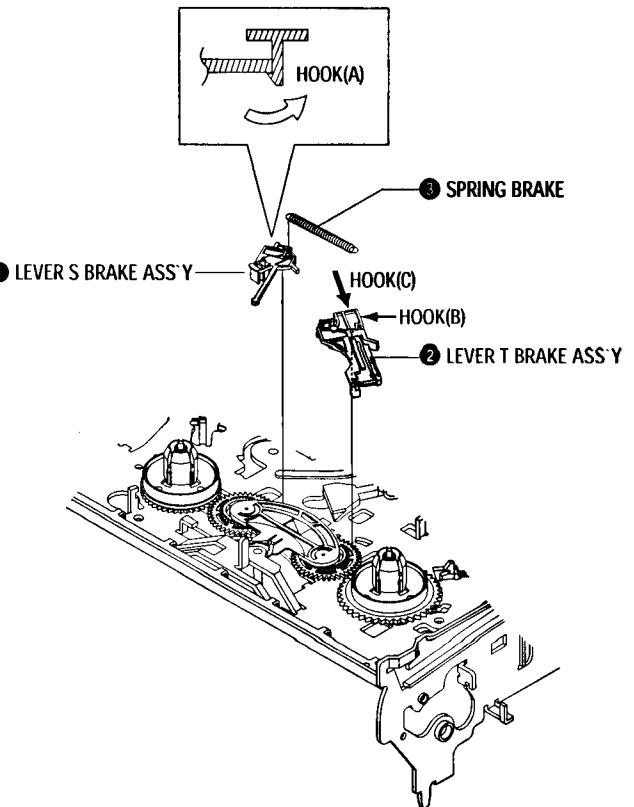

Fig. 1-17 Lever Brake S, T Ass'y Removal
- 1) Remove the Lever Brake S Ass'y (Refer to Fig 1-17).
- 2) Remove the Spring Tension Lever ①.
- 4) Lift the Lever Tension Ass'y ② & Band brake Ass'y ③.
- 1) Release the Hook [A] and the Hook [B], [C] in the direction of arrow as shown in Fig 1-17.
- 2) Lift the Lever S, T Brake Ass'y ①, ② with spring brake ③.